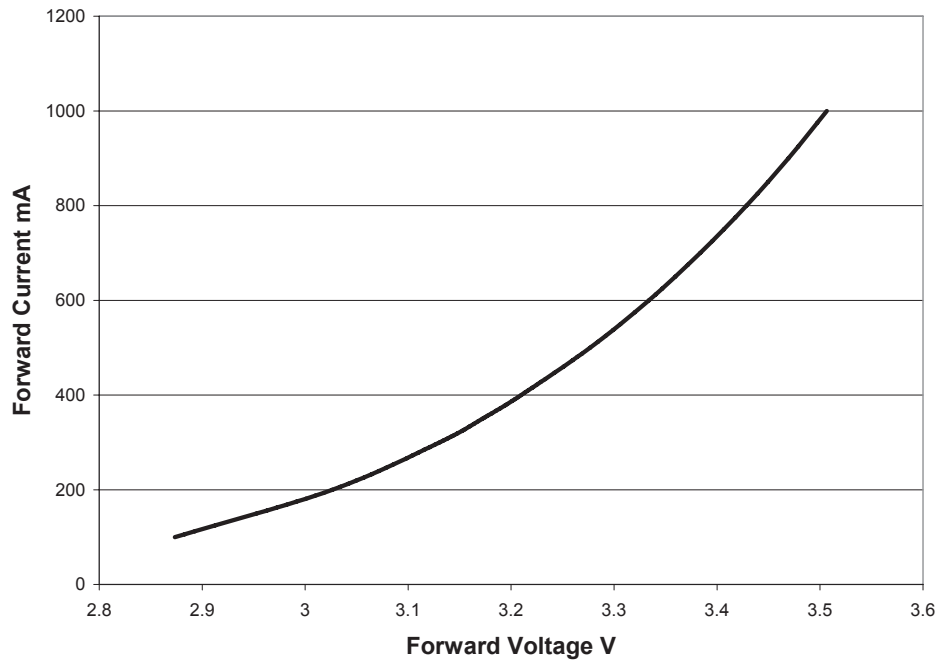

Figure 8. Forward current vs. forward voltage for White, Green, Cyan, Blue and Royal-Blue.
2. Dynamic resistance is the inverse of the slope in linear forward voltage model for LEDs. See figures 8 and 9.